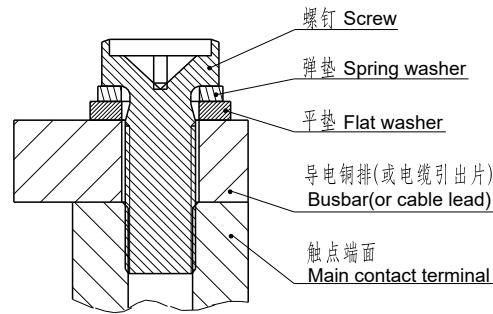

图1(Fig1)
- 当产品使用1个及多个导电铜排连接时，请确保导电铜排与触点端面紧密贴合（多个铜排需确保大电流的导电铜排最贴近触点端面，小电流的导电铜排其次），然后是平垫圈、弹簧垫圈、螺钉。不正确的连接顺序可能造成严重过热，参考下图1：
When the product is connected with one or more conductive copper bars, please ensure that the conductive busbars closely fit the contact terminal surface (The conductive copper bars with high current must be closest to the contact terminal surface if there are multiple copper bars and then conductive busbars with low current), followed by flat washers, spring washers and screws. Incorrect connection sequence perhaps give rise to severe overheating. Refer to Figure 1 as follows: